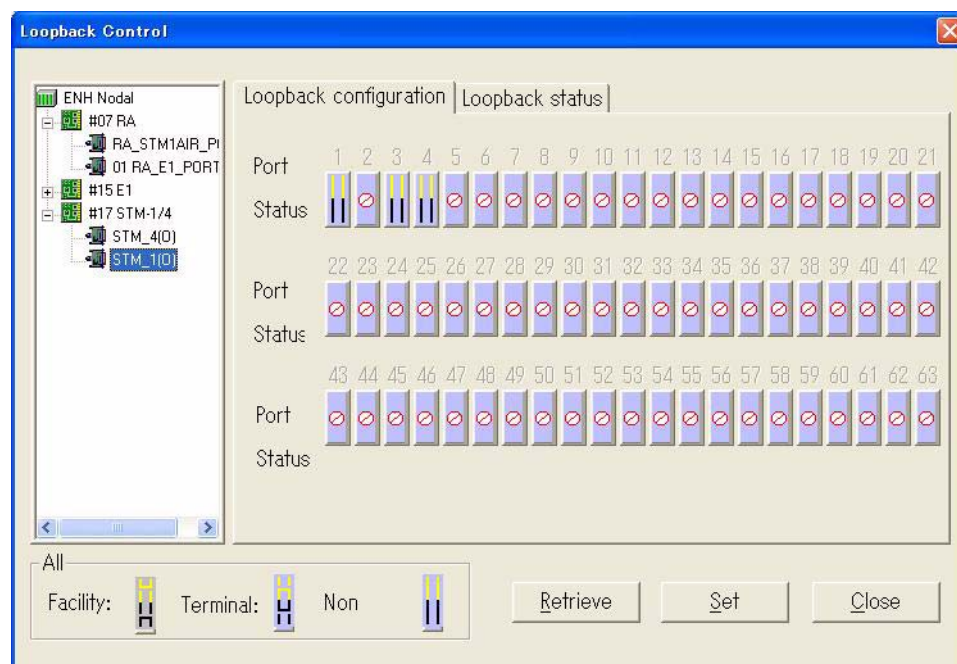

Fig. 4-9-8 Loopback Control Dialog Box
- 2 Select **Loopback Control** from the **Maintenance** menu. The **Loopback Control** dialog box shown in *Fig. 4-9-8* appears: